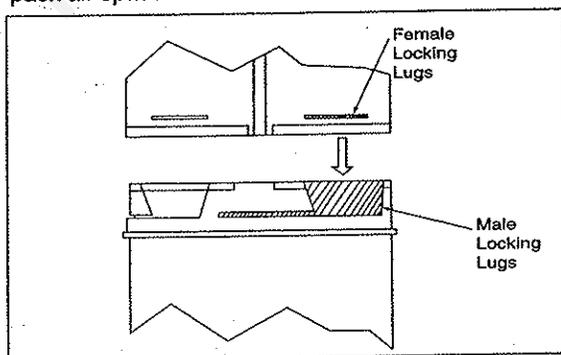

Figure 5 - Twist-lock procedure
The Dura-Vent GS is unitized and twist-locks together. For the twist-lock procedure, consult Figure 5 and do the following:
- (1) Four indentations, located on the female ends of pipes and fittings, are designed to slide straight onto the male ends of adjacent pipes and fittings, by orienting the four pipe indentations so they match and slide into the four entry slots on the male ends. See Figure 5. Push the pipe sections completely together, then twist-lock one section clockwise approximately one-quarter turn, until the two sections are fully locked. The female locking lugs will not be visible from the outside, on the Black Pipe or fittings. They may be located by examining the inside of the female ends.
- (2) Horizontal runs of vent must be supported every three feet. Wall Straps are available for this purpose.
(1) Four indentations, located on the female ends of pipes and fittings, are designed to slide straight onto the male ends of adjacent pipes and fittings, by orienting the four pipe indentations so they match and slide into the four entry slots on the male ends. (Figure 5.) Push the pipe sections completely together, then twist-lock one section clockwise approximately one-quarter turn, until the two sections are fully locked. The female locking lugs will not be visible from the outside, on the Black Pipe or fittings. They may be located by examining the inside of the female ends.
(2) Horizontal runs of vent must be supported every three feet. Wall Straps are available for this purpose.